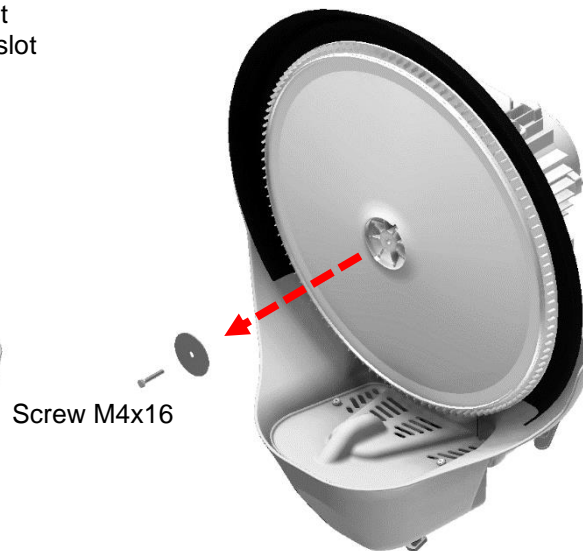

Fig. 4.4.2
- Using a screwdriver (hex. 7), loosen the M4x16 fixing screw of the rotating disc to the motor shaft and its washer (Fig. 4.4.2).